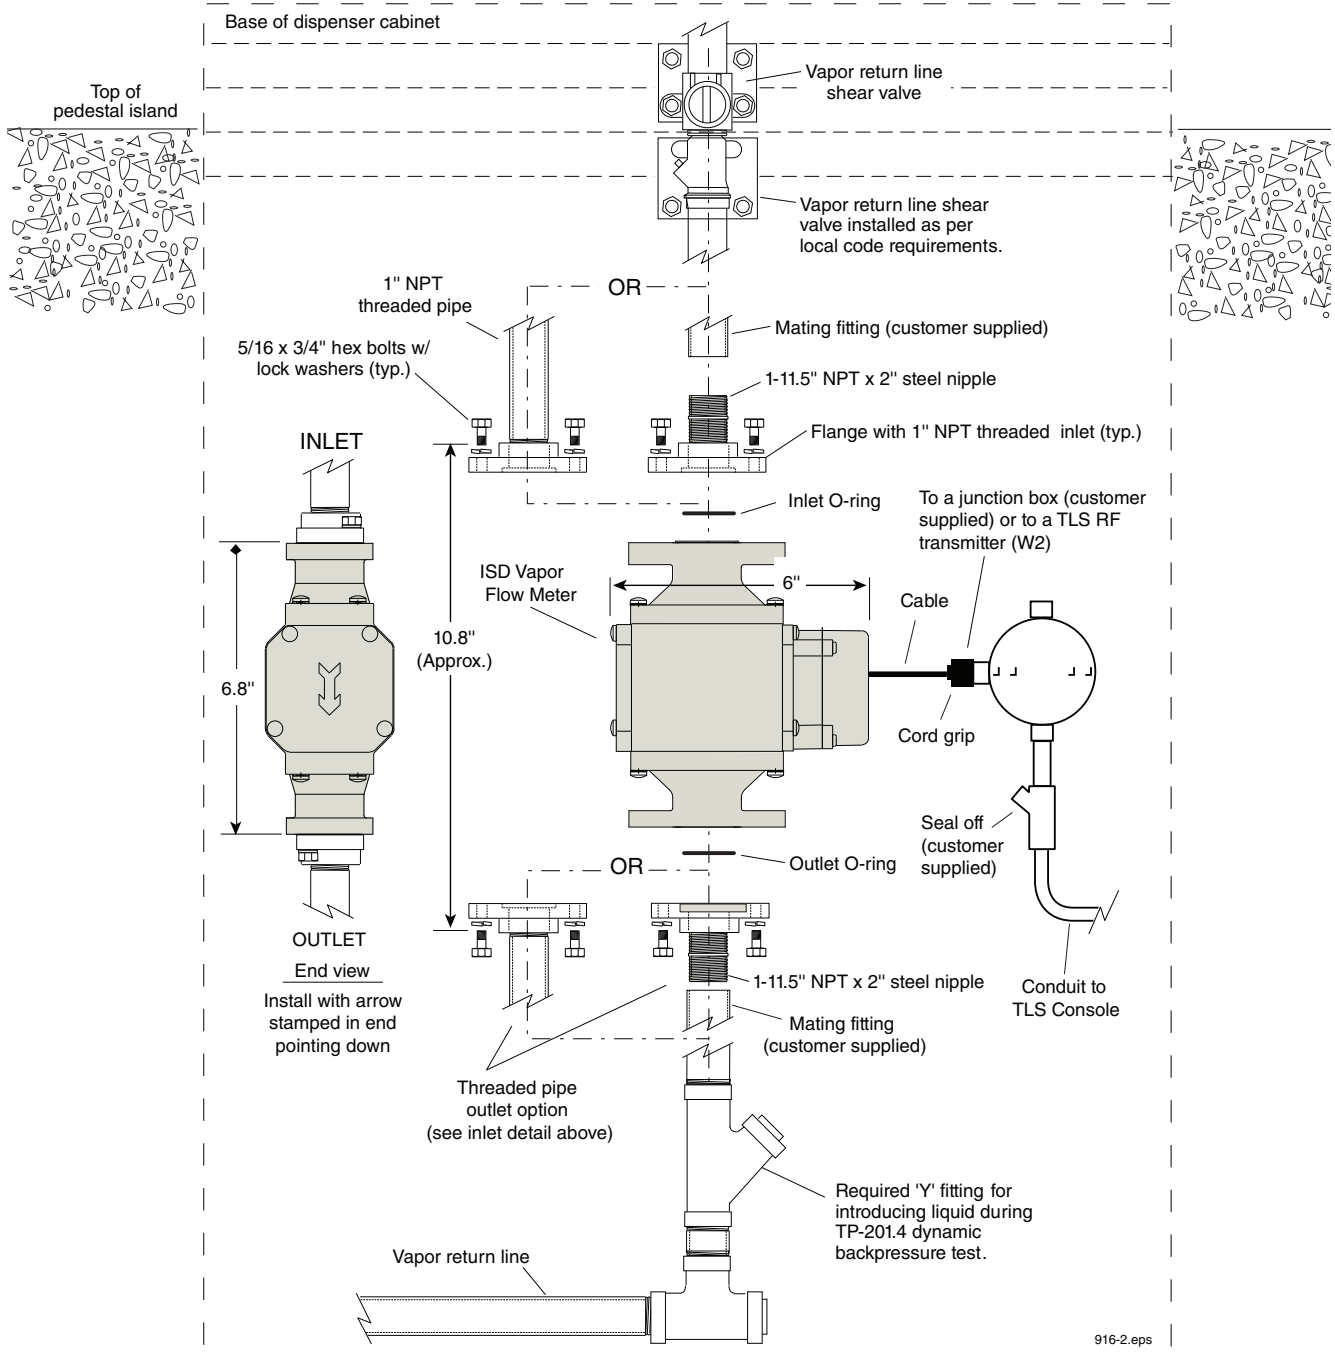

Figure 3. Example Vapor Flow Meter Installation Below Shear Valve
2. Connect the lower flange to the pipe that is connected to the lateral or wye access fitting (see Figure 3).